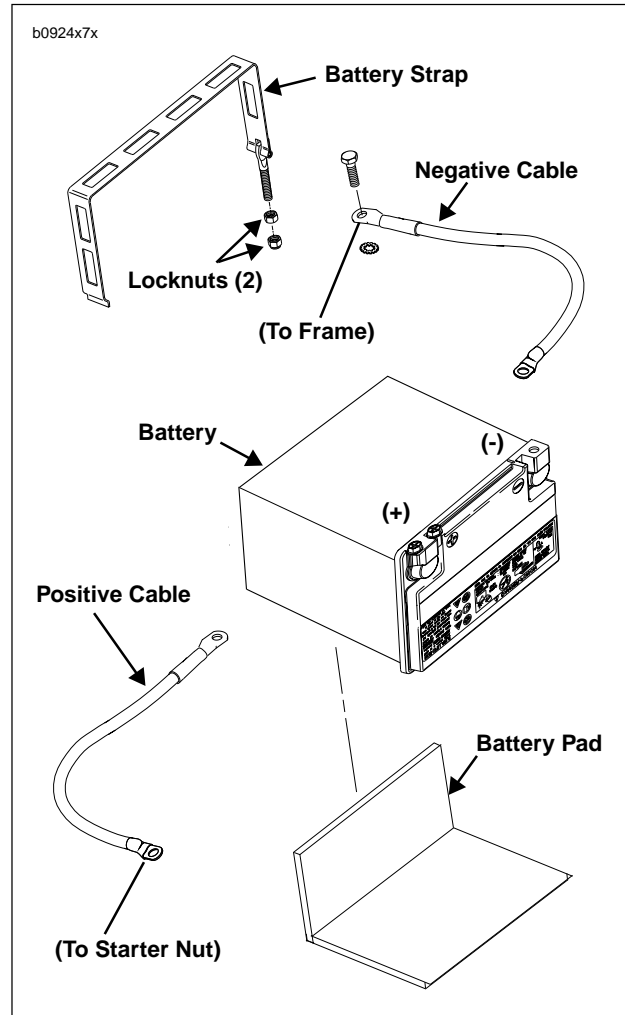

Figure 7-29. Battery
- See Figure 7-29. Disconnect negative and positive cables from battery, negative cable first.
- See Figure 7-29. Positive battery cable runs from starter to positive battery terminal.